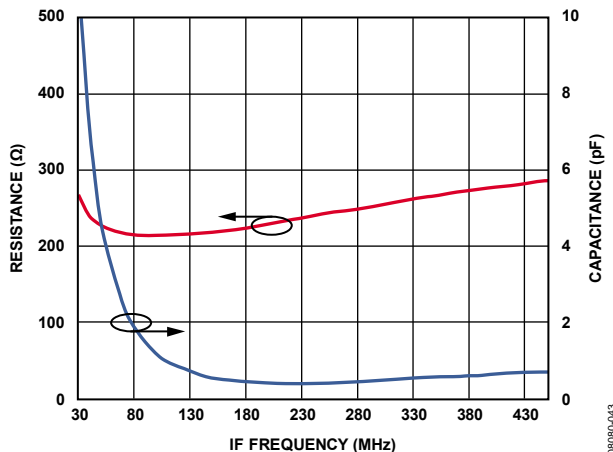
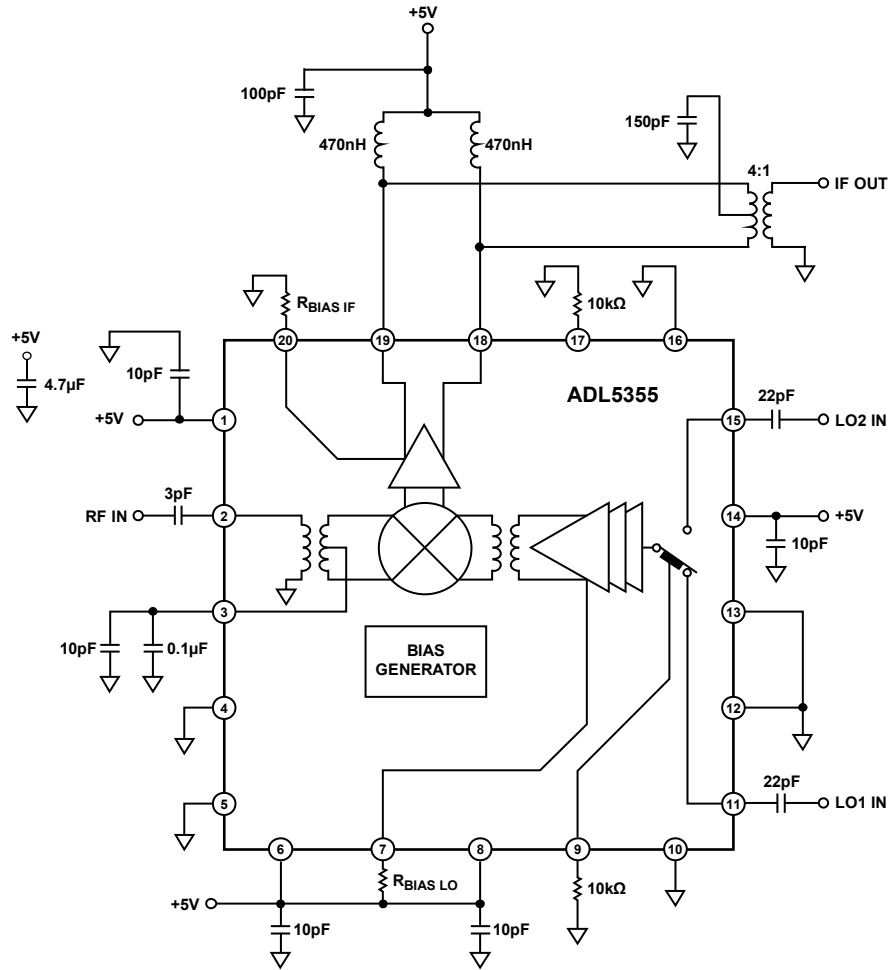

Figure 30. IF Port Return Loss
Figure 52. Typical Application Circuit
The ADL5355 mixer is designed to downconvert radio frequencies (RF) primarily between 1200 MHz and 2500 MHz to lower intermediate frequencies (IF) between 30 MHz and 450 MHz. Figure 52 depicts the basic connections of the mixer. It is recommended to ac-couple RF and LO input ports to prevent non-zero dc voltages from damaging the RF balun or LO input circuit. The RFIN capacitor value of 3 pF is recommended to provide the optimized RF input return loss for the desired frequency band.
The real part of the output impedance is approximately 200 Ω , as seen in Figure 30, which matches many commonly used SAW filters without the need for a transformer. This results in a voltage conversion gain that is approximately 6 dB higher than the power conversion gain, as shown in Table 2. When a 50 Ω output impedance is needed, use a 4:1 impedance transformer, as shown in Figure 52.